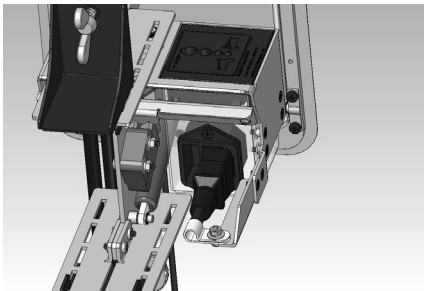

Figure 6: Power socket installed
3. Screw the four screws included in the power socket kit into the designated holes to fix the power socket housing in place (see Figure 6).